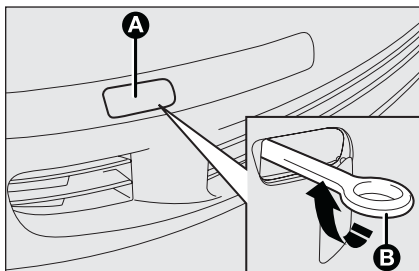
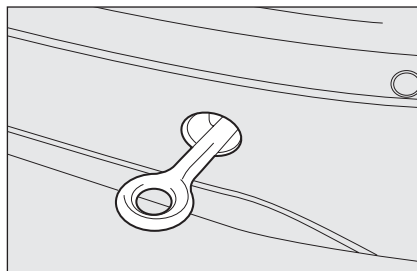

fig. 48
fig. 49
- tighten the ring on the rear **fig. 48** or front threaded pin **fig. 49**.